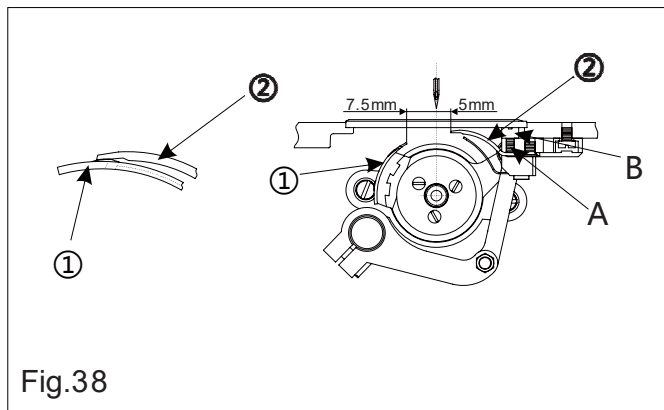

Fig.38
- 2) Set the solenoid active, turn the trimming cam ① until the cam is touched with the roller of the cam lever ②, then fix the cam.
- 3) Set the solenoid inactive and make the lever ② restore to the original position, there should be a 0.5~1.0mm clearance between the cam ① and the roller of the cam lever ②.
6. Adjusting the knives (Fig.38)